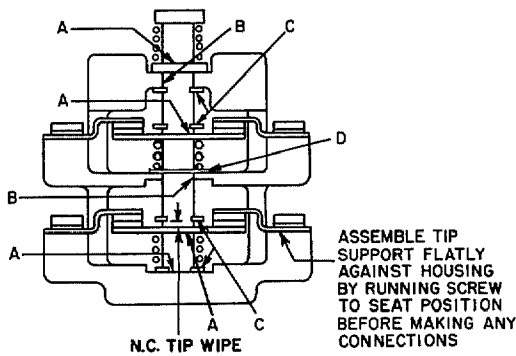

Fig. 8. Contact block with normally closed contacts in unoperated position
These contactors use an interlock block having internal parts which can be rearranged to give different contact arrangements. Should this be necessary, the parts should be reassembled in accordance with Figs. 8, 9, or 10.
Spring ends must not protrude into holes (A), slots (B), or keys (C), which serve as guides for operating arm. See Fig. 8.